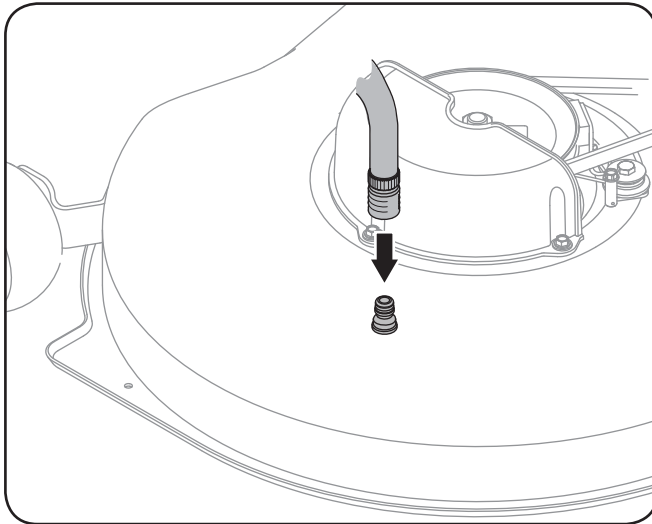

Figure 6-4
4. Attach the hose coupler to the water port on the deck's surface. See Fig. 6-4.